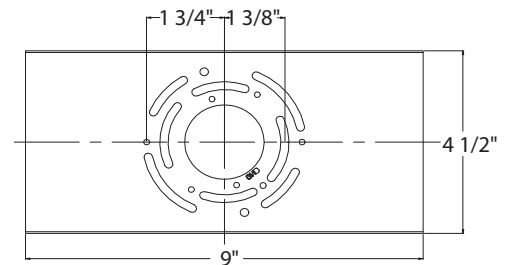

Fig.3 Driver Wires
MOUNTING THE FIXTURE (Fig. 1 / Fig. 3)
- b) Due to limited space within the canopy, shorten the cable as necessary to make the installation easier. Make sure to identify and label all the wiring properly before any trimming/shortening (Fig. 3).
CONNECTING THE WIRES (Fig. 2 / Fig. 3 / Fig. 4)
6. Connect the fixture, CCT switch, and driver's output wires to center cable as shown in Fig. 3, red to the white+, black to the black, blue to the black-, brown to the bare-, make sure that wire connectors(A) are secured. Then tuck them inside the canopy.